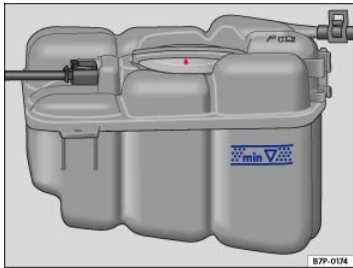

Fig. 190 Coolant expansion tank in the engine compartment.
- When the engine is cold, check the engine coolant level relative to the marking on the side of the expansion tank ⇒ Fig. 190.
- The engine coolant level must be inside the marks on the side of the reservoir ⇒ Fig. 190. **Do not fill above the top edge of the filling range!** ⇒ .
- Refill engine coolant only up to the top edge of the marked fill range ⇒ *Fig. 190*. Excess engine coolant may be forced out of the engine cooling system when it gets hot and cause damage.